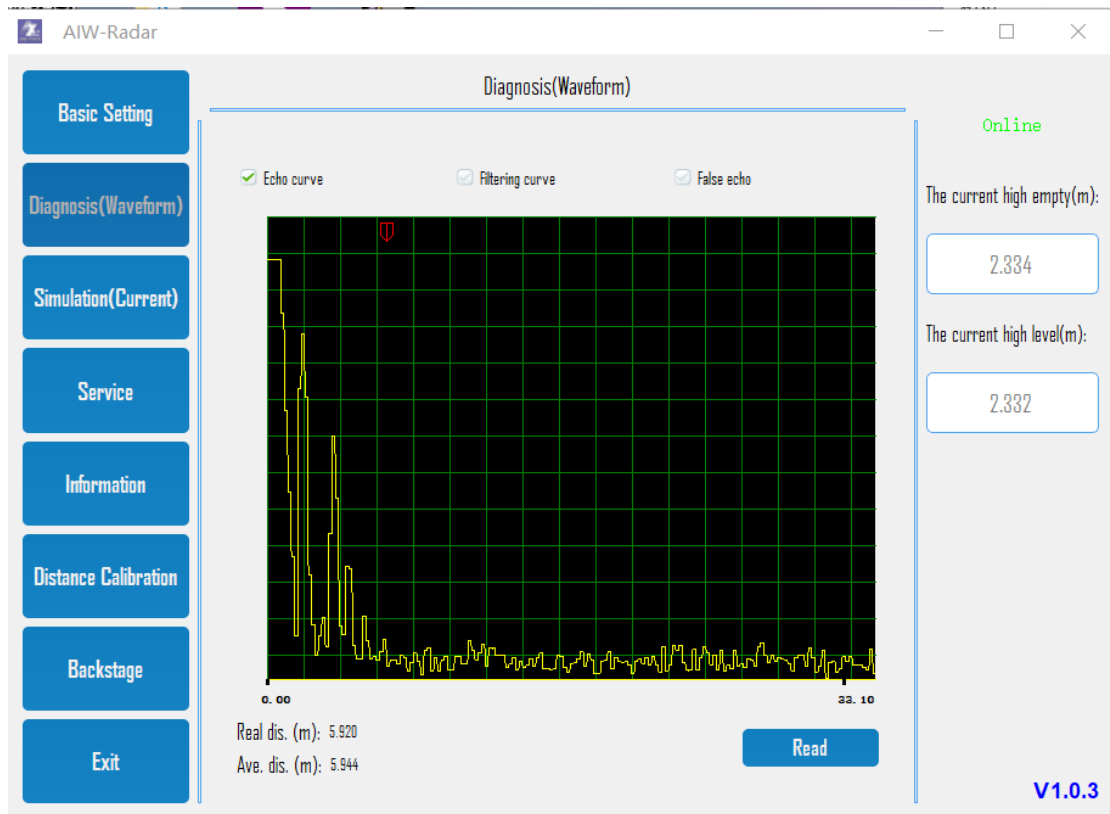

Figure 5.
6. Click the "Diagnosis (Waveform)" button on the left side of the main interface, and the main interface will display the echo curve of the current device by default. The type of curve that needs to be displayed can be selected according to the need. As shown in Figure 5.